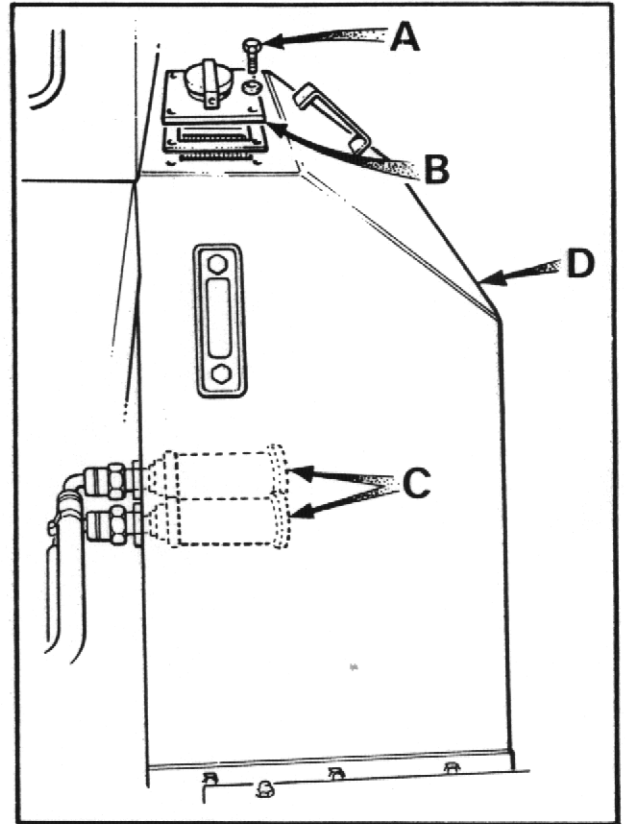
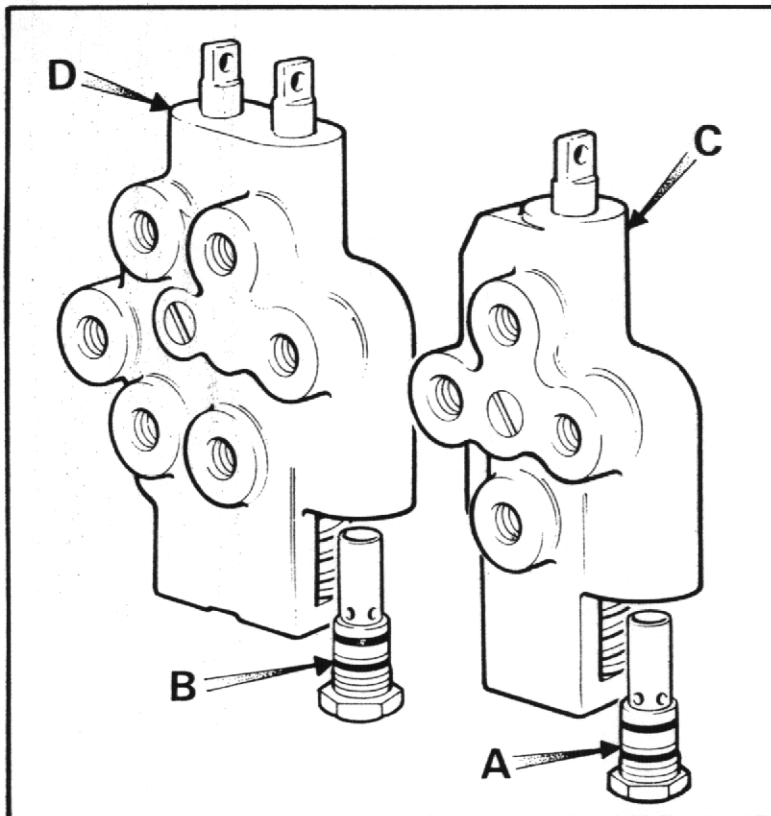

FIG. 4
FIG. 5
2. Check that neither hydraulic filter is blocked (See Fig. 4)
- a) Remove the four setscrews (A) that secure the filler cap assembly (B) and remove assembly.
- b) Unscrew suction filters (C) from inside tank (D) and wash in white spirit. Dry with moisture-free compressed air.
- b) Operate control lever to lift to full height, check that the reading on the pressure gauge is 2000 lb/in²* when lift ram is fully extended and the relief valve (A) Fig. 5 is 'blowing'.
- b) Operate control lever to tilt mast back and check that pressure reading on gauge is 2000 lb/in² when ram is fully retracted and relief valve (B) Fig. 5 is 'blowing'.
5. Remove relief valve cartridge (A) Fig. 5 for lift system or (B) for tilt system (hexagon head) from bottom of control valve (C) or (D) (see fig. 5) and replace with a new one.